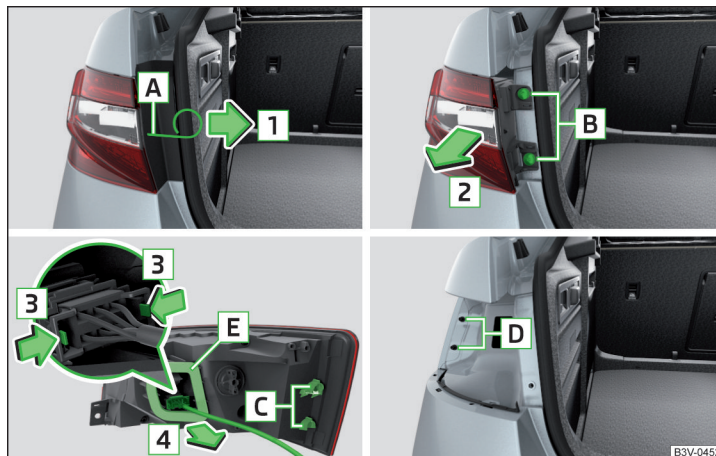

Fig. 366 Removing light / pulling out connector
- Insert the clamps for removing the full wheel trims into opening **A** » Fig. 366.
- › Slide the plug in the opposite direction of the arrow **4** » Fig. 366 into the light. The locks on the plug must be inserted securely.
- Ensure that when re-inserting the light the wiring harness between the body and the light is not jammed and the seal **E** » Fig. 366 is correctly inserted - Otherwise there is a risk of water ingress and damage to the electrical installation.